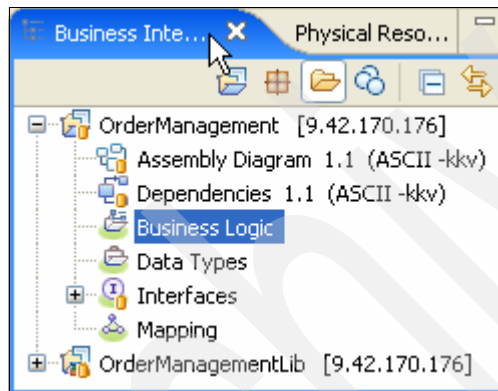

Figure 3-8 *OrderManagement* module in the Business Integration View
1. Expand the **OrderManagement** module and select **Business Logic** as shown in Figure 3-8.